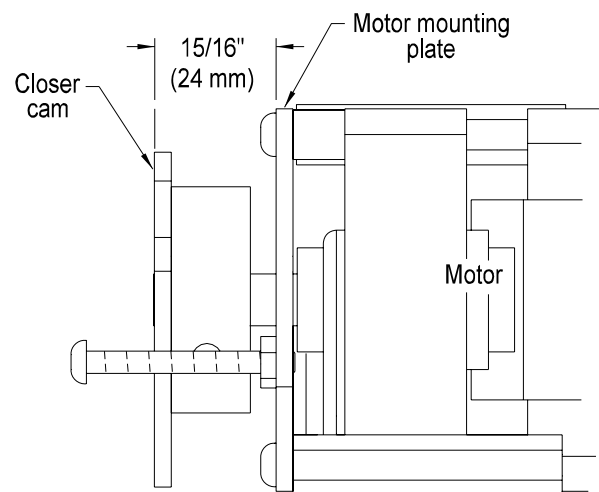

Figure 3.12
1. Set the lateral (side to side) position of the cam assembly so the outside edge of the closer cam measures  $15/16"$  (24mm) from the outside edge of the motor plate (Figure 3.12).